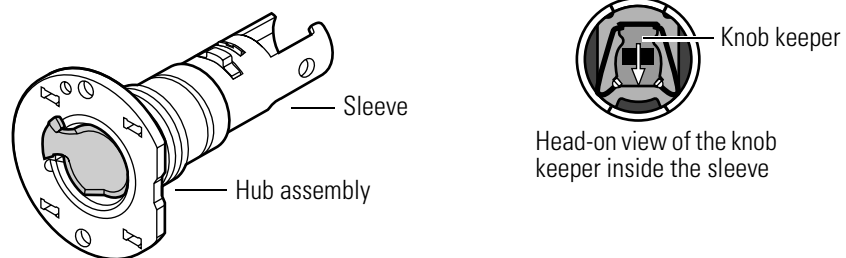

Figure 3.23 Removing and replacing the sleeve assembly
2. Position the sleeve as shown in Figure 3.23. Push the sleeve through the hub as far as possible.
4. Press the screwdriver blade in the direction of the arrow in Figure 3.23. Push the sleeve through the hub, keeping the knob keeper pushed in until it clears the hub.
3. Press the screwdriver blade in the direction of the arrow in Figure 3.23. Push the sleeve the rest of the way through the hub.